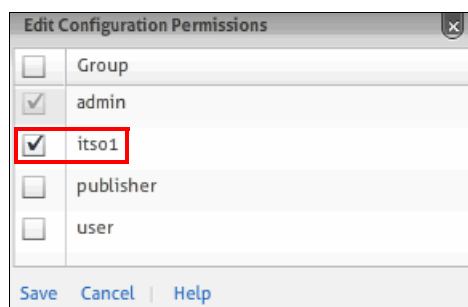

Figure 5-22 Select the groups to which to give permission
2. Select the users or groups to which you want to grant permissions, as shown in Figure 5-22.